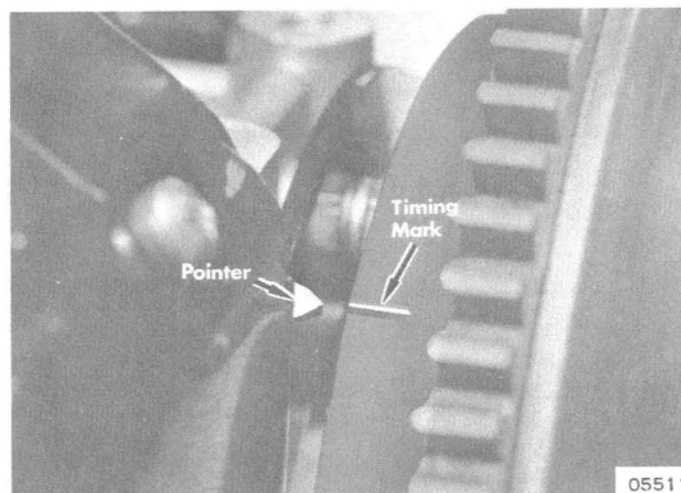

Figure 1. Timing Marks Aligned
7. Aim timing lite at pointer on engine mount plate. (Figure 1) With engine running at 2000 RPM, timing mark on flywheel rim should align with pointer on mount plate or within 1/16" (14° BTDC)